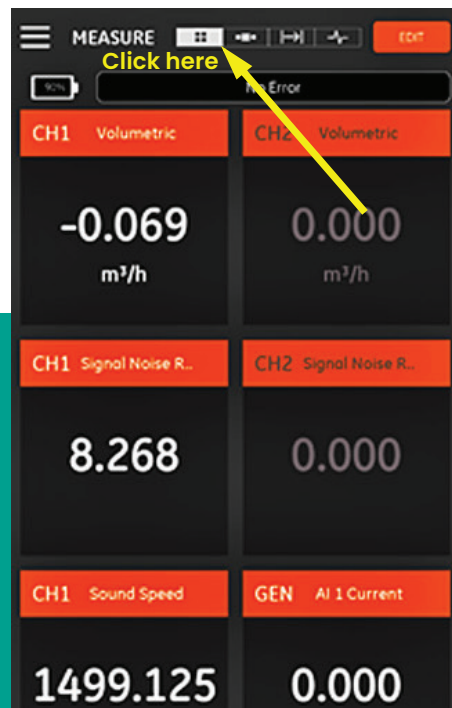

Figure 106: Multiple measurement screen
In *Figure 106* below, note that *CH1* has been turned on and *CH2* has been turned off in the *program* menu. Also, no *AI* source is connected to the *general* channel, because the value is zero.
highlighted  icon at the top of the screen (see *Figure 106* on page 45). Note the following:
- An *error status* box is located just above the measurement display section of the screen. If there are no system errors, *no error* is displayed (*Figure 106* below). However, if a system error does occur, the error information is displayed in this location with a flashing red background.